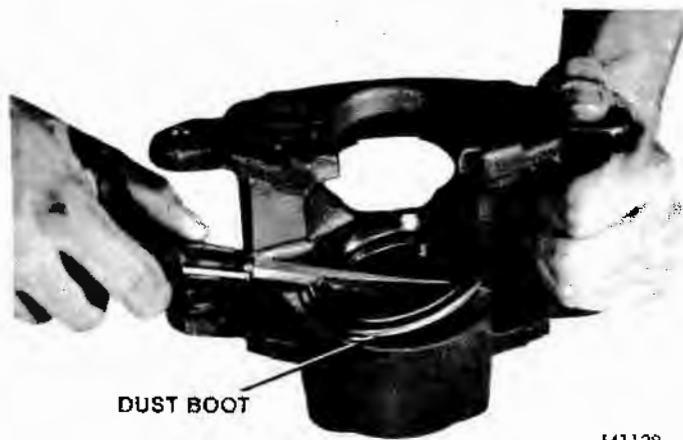

Fig. 9-45 Dust Boot Removal
(9) Pry dust boot out of bore with screwdriver (fig. 9-45). Use caution during this operation to prevent scratching bore. Discard dust boot.